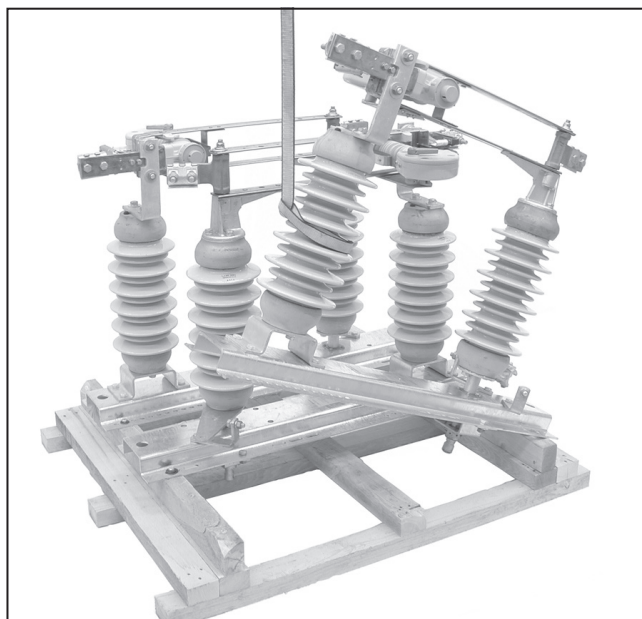

Figure 7. Hoisting the switch pole into position.
STEP 5. Hoist the individual switch poles and bolt them into position on the pole or structure as shown on the erection drawing. See Figure 7.